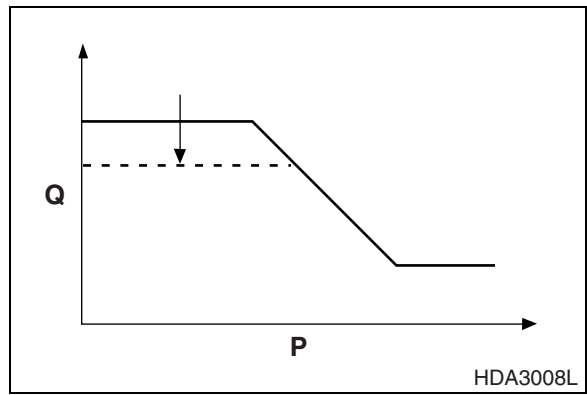
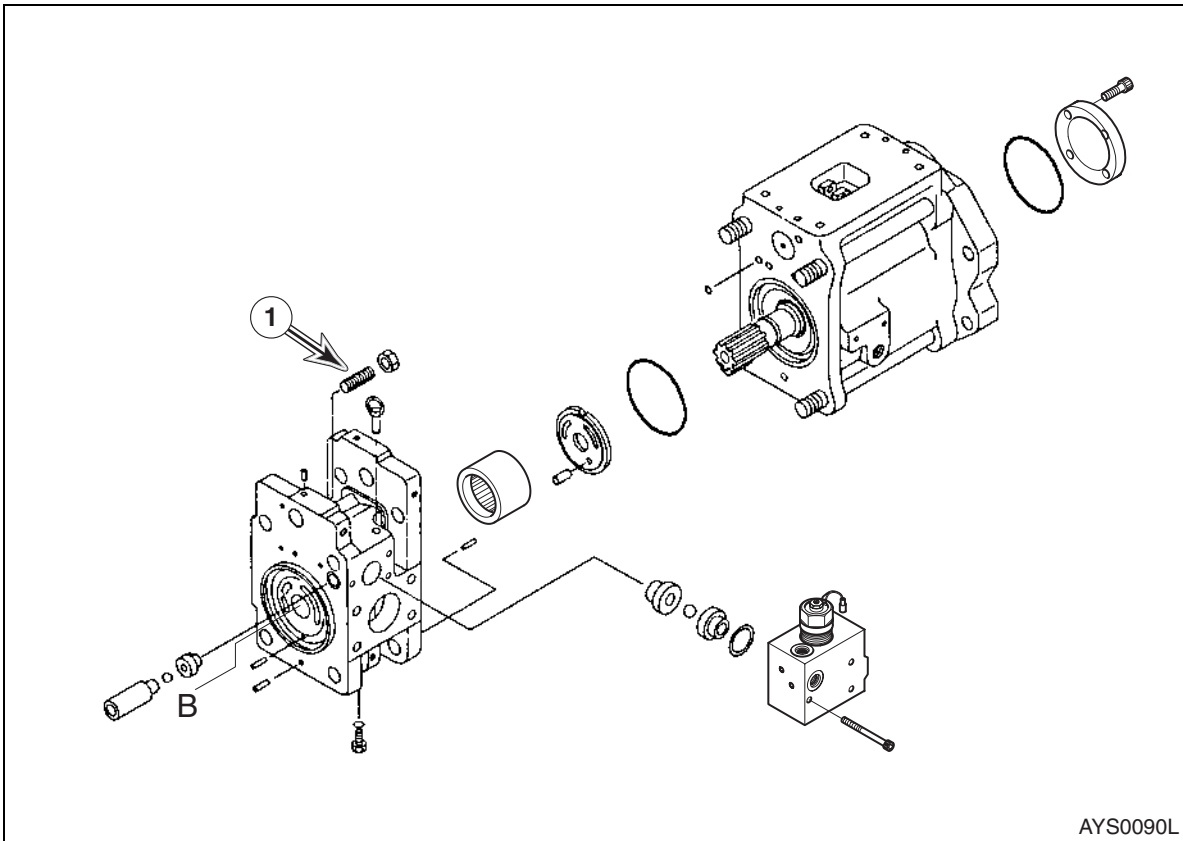

Figure 17
Figure 18
The adjusting screw (1, Figure 17) affects the delivery rate (Q) of the pump. Tightening the adjusting screw decreases the maximum cut flow (as shown in Figure 18) while backing out the screw increases cut flow delivery rate.